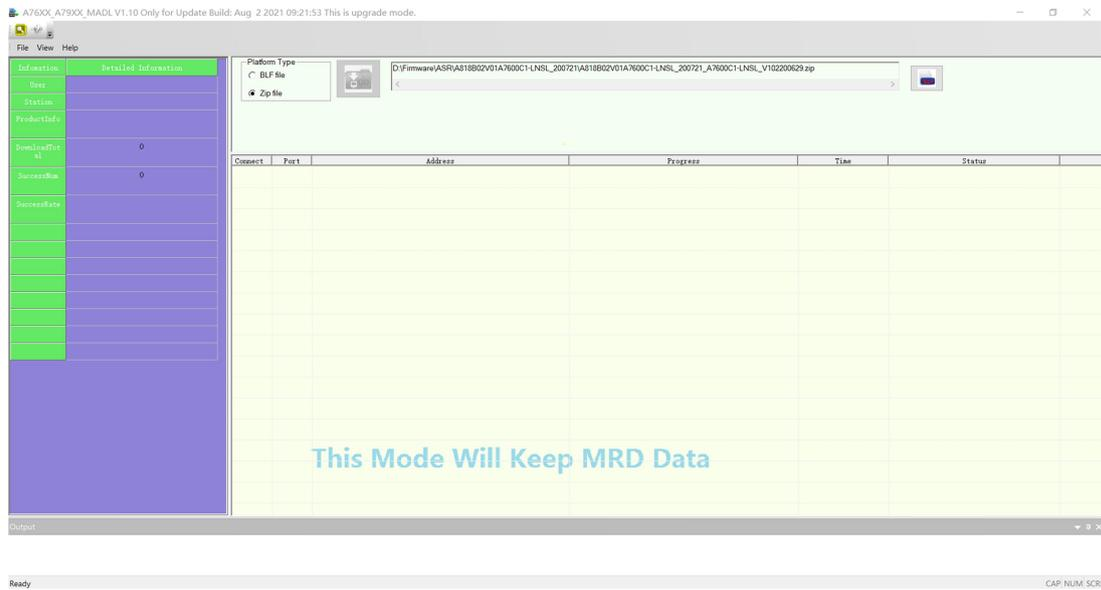

fig.1: The interface of MADL tool
1. Double click A76XX_A79XX_MADL V1.xx Only for Update.exe. The interface is shown in figure 1.